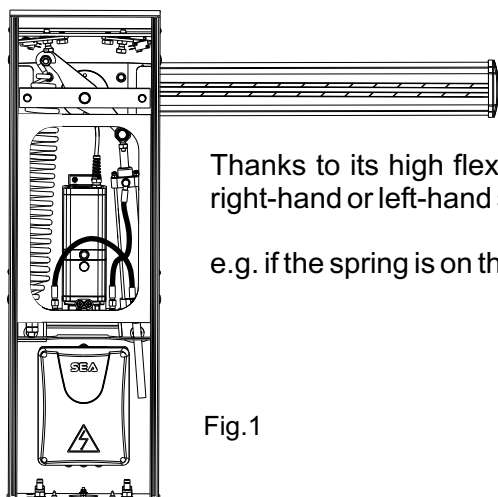

Fig.1
N.B.: The operator comes as shown in Fig.1 (opening on the left).
Barrier with opening on the left (Fig.1)